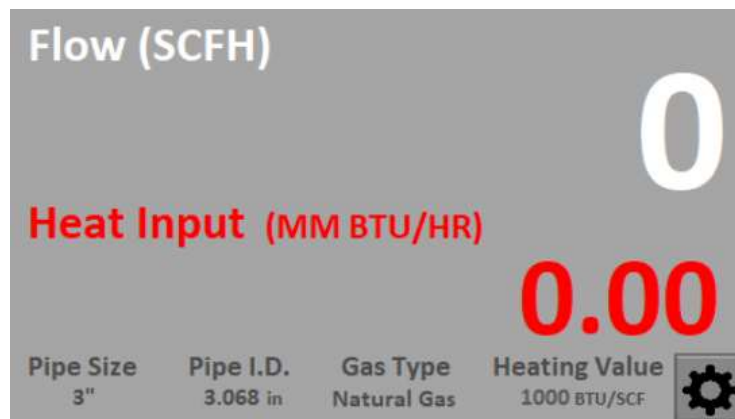

Figure 13: Flow Screen – Normal Operation
23. The flow screen is shown in Figure 13 below. Flow in SCFH is shown in white at the top, and the heat input into the system is shown in red at the bottom. The heat input is calculated using the flow and multiplying this number by the heating value and adjusting for the appropriate heat input unit. Critical meter settings are read back from the meter’s Modbus registers and are displayed at the bottom of the screen.